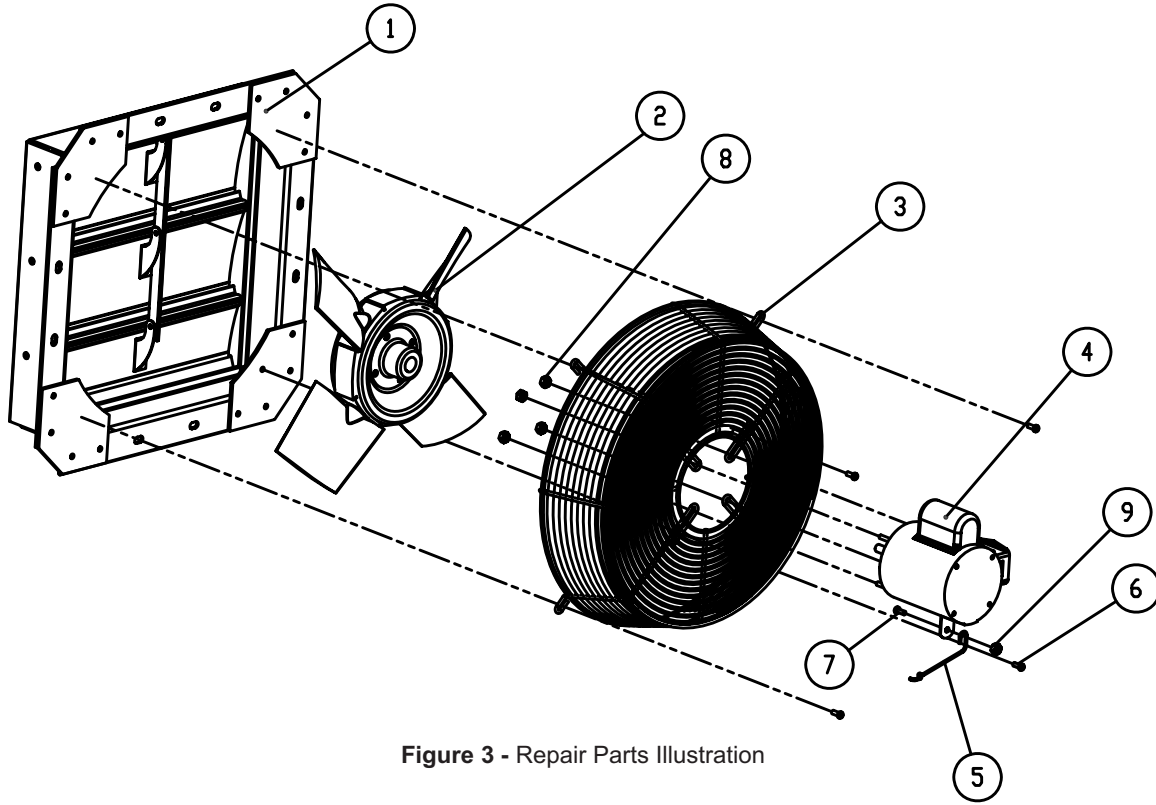

Figure 3 - Repair Parts Illustration
2. Refer to illustration of parts placement (Figure 3).